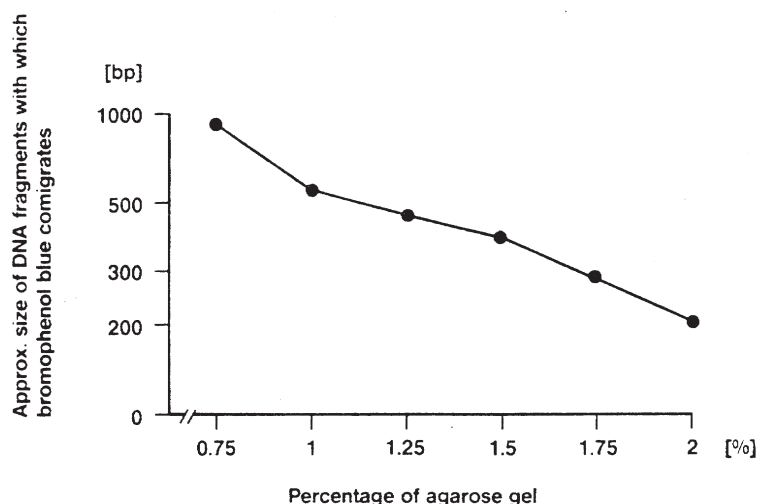

Fig. 1: Migration of DNA fragments in Agarose MP.
- The resolution ranges which can be obtained with various concentrations of Agarose MP are shown in the table. The corresponding migration behavior of bromophenol blue is depicted in Figure 1.